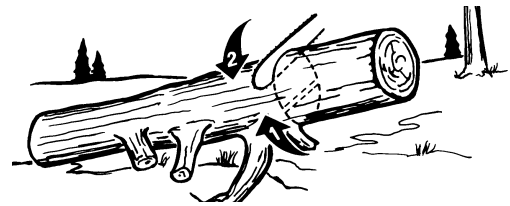

Fig. 18
2. Log supported on 1 end: First, cut from bottom (underbuck) 1/3 diameter of log to avoid splintering. Second, cut from above (overbuck) to meet first cut and avoid pinching (Fig. 18).